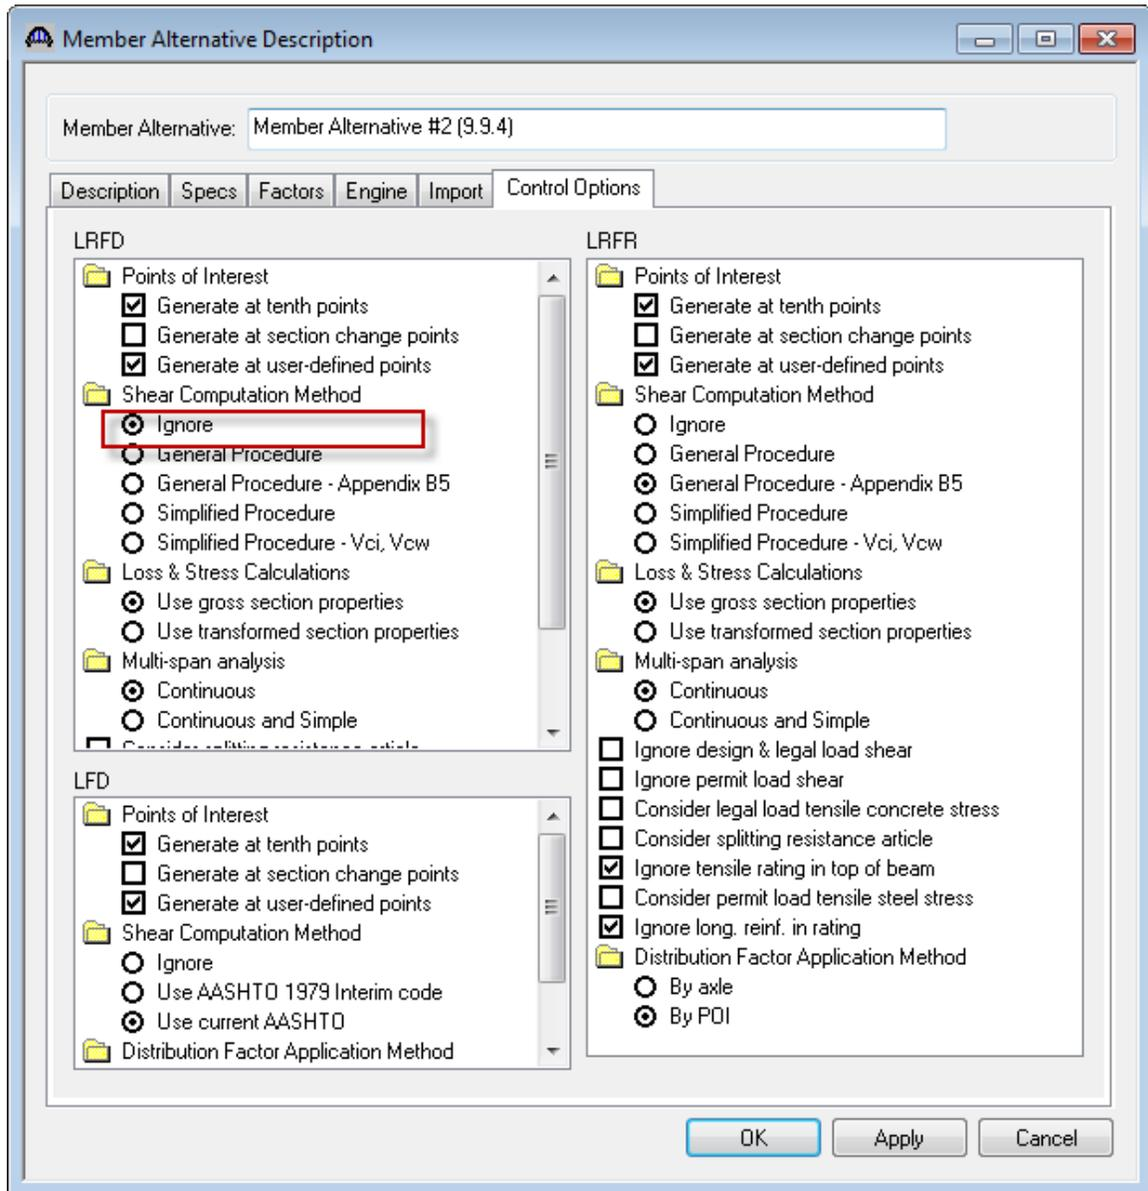

Fig 22. Member Alternative Description Window – Modified Control Options Tab
Select “Member Alternative #2(9.9.4) (E)(C)” and double click on it to open “Member Alternative Description” window. On this window go to Control Options tab (Fig 22). On this tab under LRFD settings, we can see shear computation method has been changed to “Ignore”. Click on “Cancel” button to close the window.